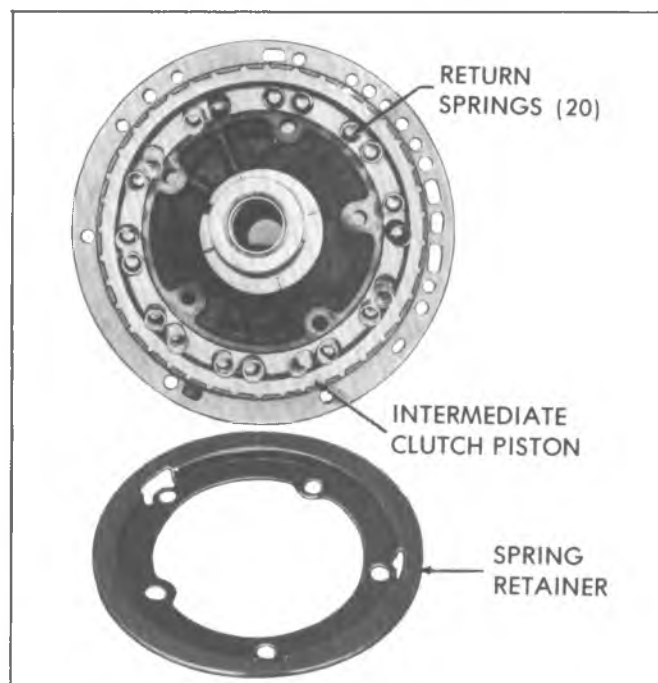

Fig. 7A-59B--Intermediate Clutch Spring Retainer, Return Springs and Piston
4. Remove intermediate clutch piston inner and outer seals (fig. 7A-60B).